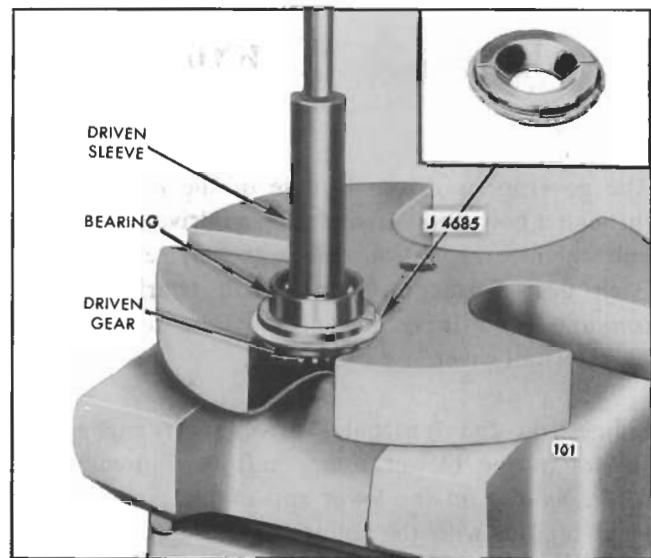

Fig. 3 - Removing Driven Sleeve and Bearing from Driven Gear
- b. Support the driven gear assembly and remover on the bed of an arbor press (Fig. 3). Place a brass rod inside the sleeve against the end of the driven gear, then press the driven gear from the sleeve and bearing. Catch the driven gear by hand when pressed from the bearing.